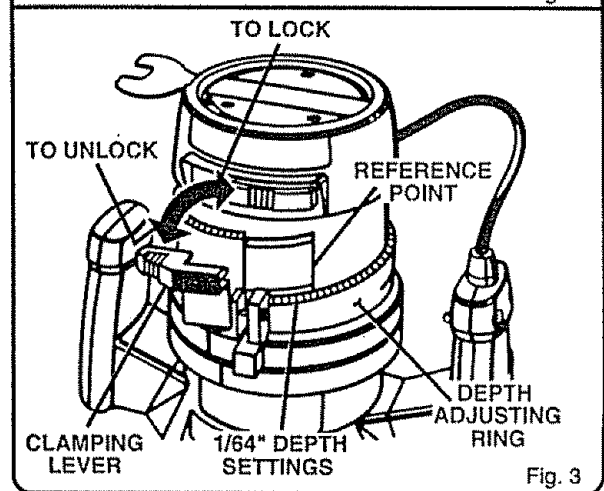

Fig. 3
See Figures 3 and 4.
2. Place your router on a flat surface, unlock clamping lever, and adjust until cutter is inside subbase. *See Figure 3.*